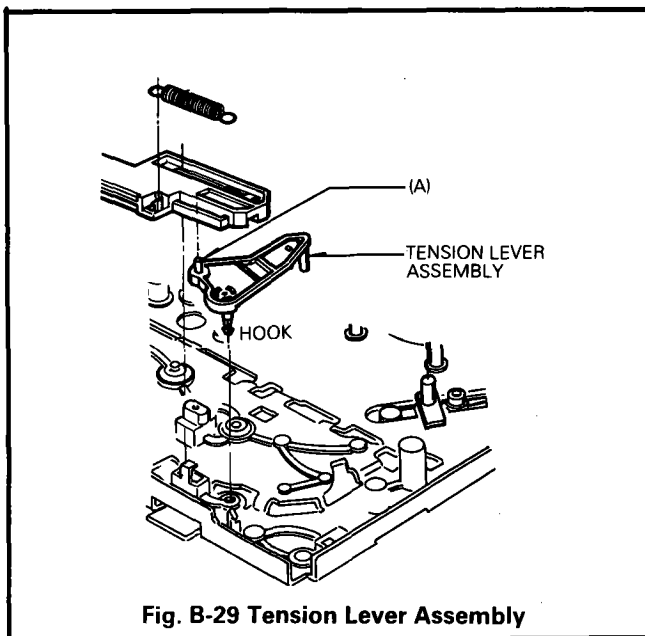

Fig. B-29 Tension Lever Assembly
29. Tension Lever Assembly (Fig. B-29)